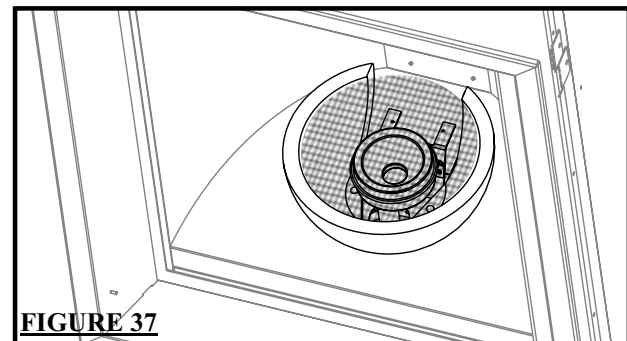

FIGURE 37
1. Carefully slide the opening in the rear of the bowl over the burner making sure to line the holes in the bottom of the bowl with the 2 locating pins on the burner bottom. (Fig. 37)